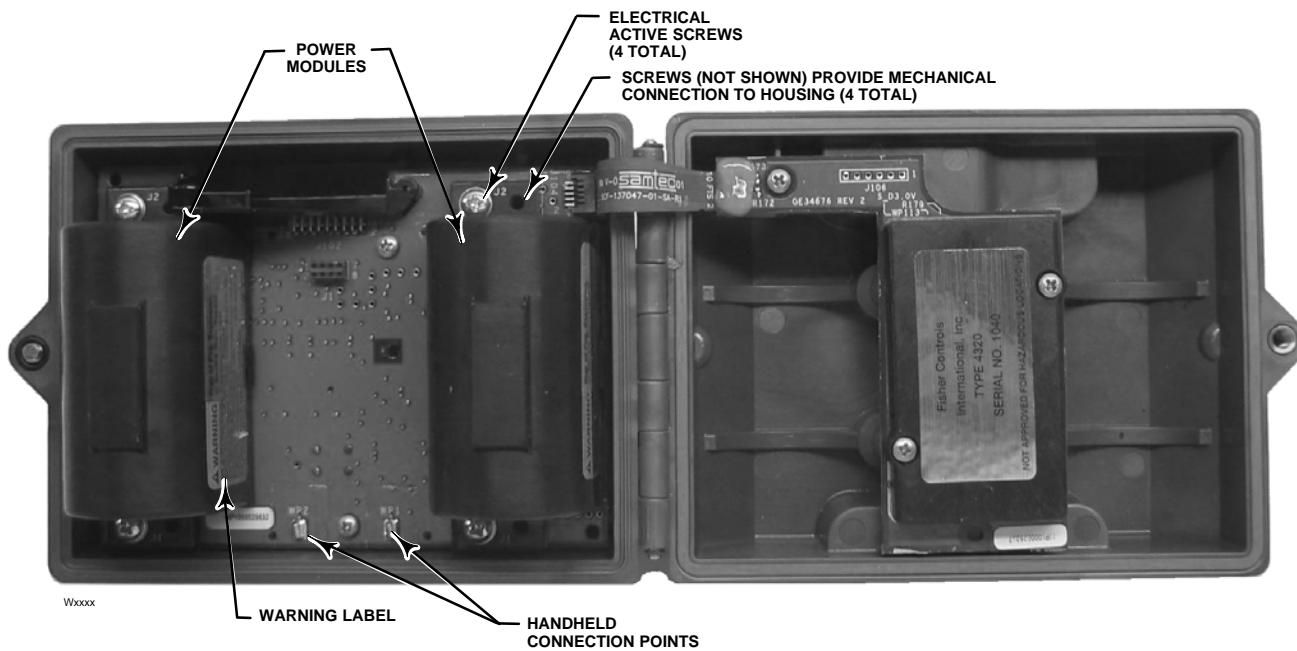

Figure 13. Fisher® 4320 Wireless Position Monitor
3. Remove the 4 electrical active screws as indicated in figure 13. These are the larger screws on the left of the power modules.
4. Remove the 4 smaller screws providing the mechanical connection to the housing, as shown in figure 13.